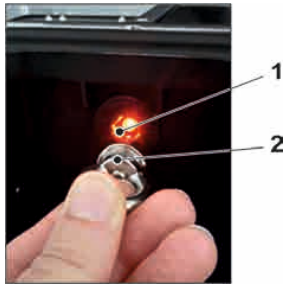

Fig. 31-20 Waking up the NivuFlow Mobile
2. "Waking up" NivuFlow Mobile: hold the accompanying magnet (solenoid, Fig. 31-20 no. 2) to the reed contact (Fig. 31-20 no. 1; front side of NFM) until the LED is lit.